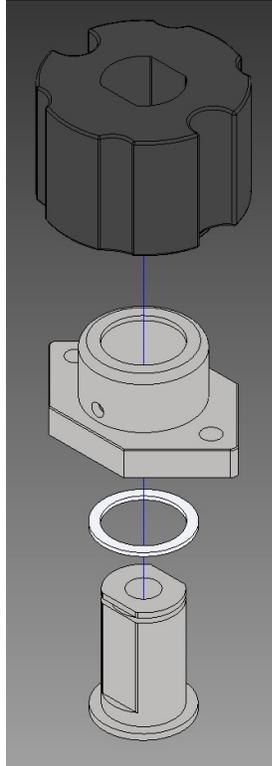

FIGURE F. 10. – OPERATOR DISASSEMBLY
10. OPTIONAL (continued from step 9) – Disassemble operator assembly (see Figure F.10.)